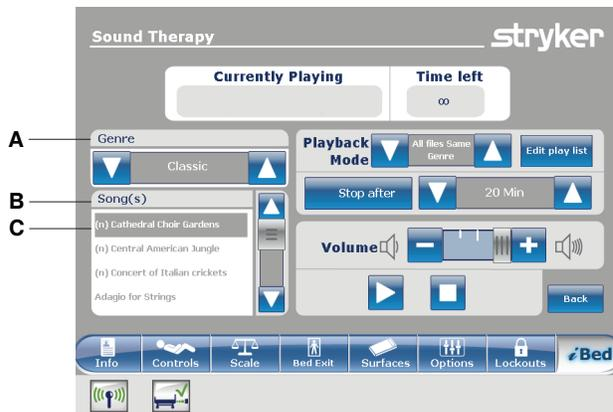

Figure 115: Sound therapy
2. Tap the up and down arrows to select a genre (A) (Figure 115 on page 99).
3. Tap the up and down arrows to scroll through the available songs in the **Song(s)** area (B) (Figure 115 on page 99).
Note: The song that is currently selected is highlighted in gray (C) (Figure 115 on page 99).
To return to the **iBed** main menu, tap **Back** (Figure 115 on page 99).
Tap **Edit play list** (Figure 115 on page 99).